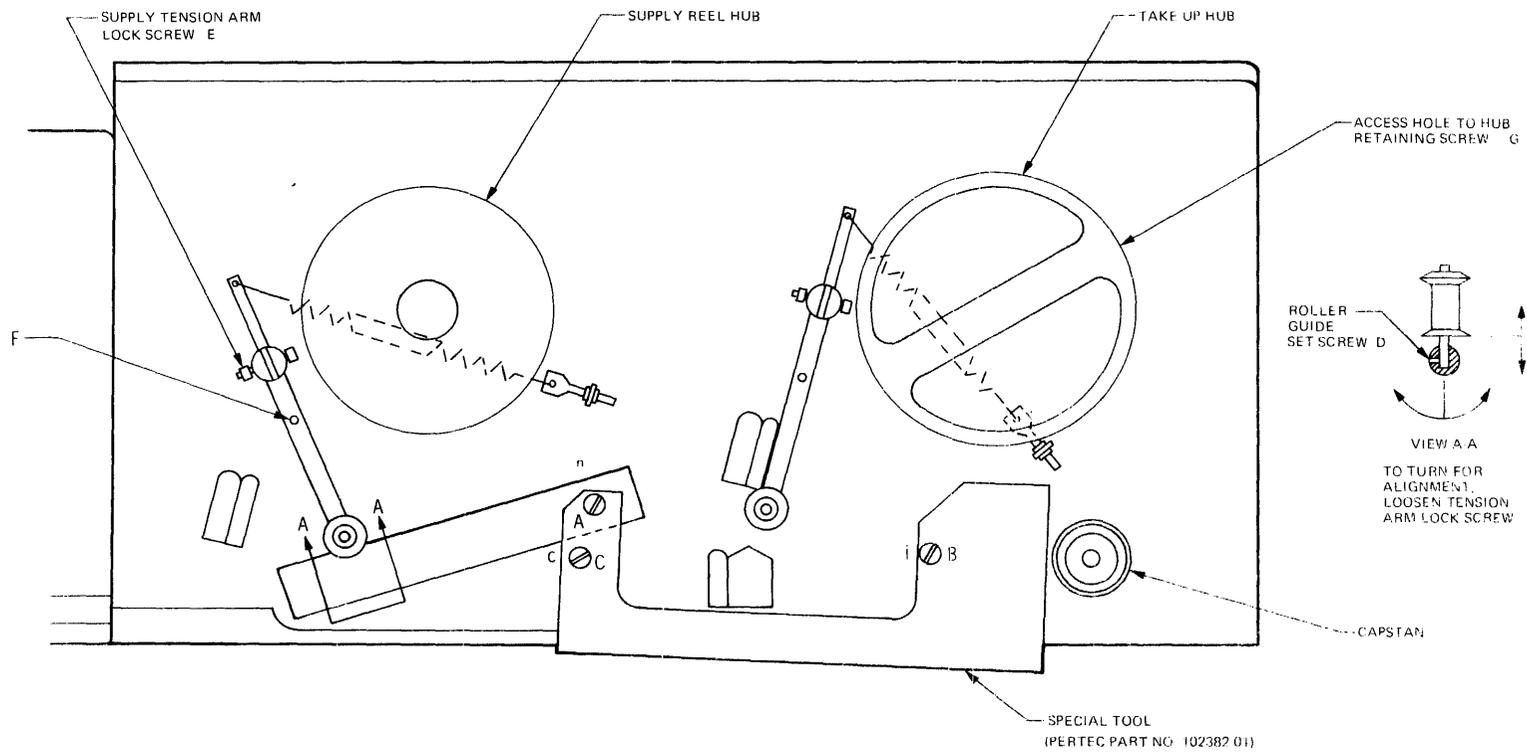

Figure 6-7. Supply Reel Tension Arm Guide Roller Adjustments
Refer to the stamped clearance hole lettering on the alignment tool and Figure 6-7 in conjunction with the following procedures.
- (1) Engage an Allen wrench in the head of the Allen head lock-screw 'E' (Figure 6-7). With an open end wrench of appropriate size, slightly back off tension arm lock-nut.
- (2) Insert a suitable rod or tool into the through-hole 'F'.
- (3) Rotate tension arm until the face of the guide roller and the contacting surface of the crossbar are parallel.
- (4) Test by sighting between the two surfaces. Observe a minimum amount of light between the two surfaces.
- (5) Tighten tension arm lock-screw 'E' to a torque setting of 20 pinch-pounds, nominal.